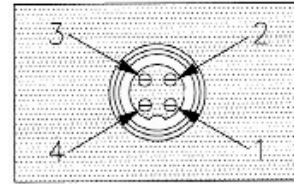

Fig. 3. Microphone pin numbers
7. Solder the wires to the pins in accordance with the microphone wiring table above and figure 3 below. Before soldering, the washer must be placed on the threaded portion of the pin receptacle body.